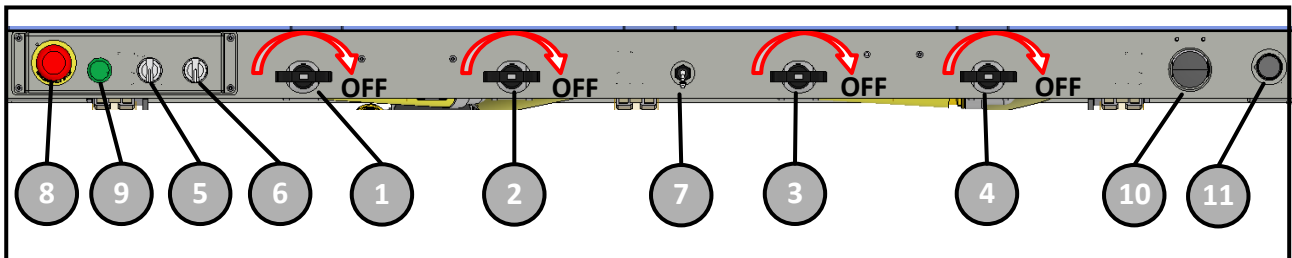

Figure 6-1
- Power the machine on by pushing the power on button (9) Figure 6-1
- Start the vacuum pump (5) Figure 6-1.
- Open the suction thru the switch (6) Figure 6-1.
- Open vacuum zones (1) (2) (3) (4) according to the material dimension Figure 6-1.
- In case of danger, it will be sufficient to press the emergency button Figure 6-1 to instantly stop and cut power off to the machine.
- Push the Power ON button (9) Figure 6-1.
- Press Power On button (9) Figure 6-1, to have the sytem release clamps.